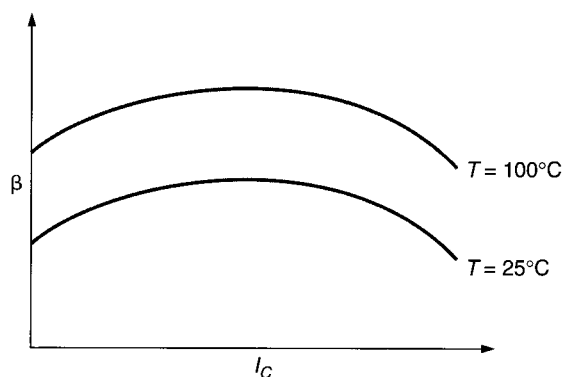

FIGURE 6.27 The relationship among  $\beta$ ,  $I_C$ , and temperature.
**Beta curves** show how the value of dc beta varies with both *temperature* and *dc collector current*. This point is illustrated in Figure 6.27. As you can see, the value of beta is greater at  $T = 100^\circ\text{C}$  than it is at  $25^\circ\text{C}$ . Also, beta increases (up to a point) for increases in the dc value of  $I_C$ . However, when  $I_C$  increases beyond a certain value, beta starts to decrease.
As you can see, the value of beta increases as  $I_C$  is increased to 10 mA. However, as  $I_C$  increases above 10 mA, the value of beta begins to decrease. This goes along with the curves shown in Figure 6.27.